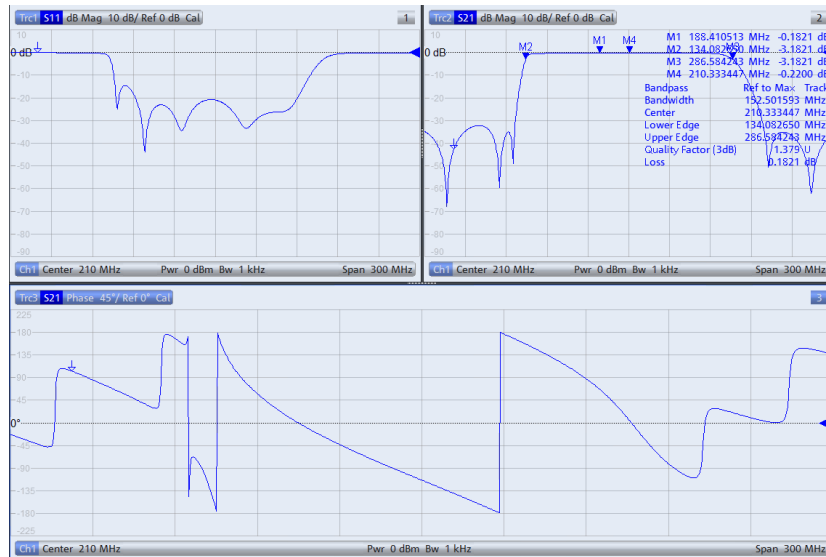

Fig. 2-35: Display of all key filter parameters in split screen.
- To display all three measured values (reflection, transmission and phase) in separate diagrams (Fig. 2-35), press the *DISPLAY* key and select *Split All*.